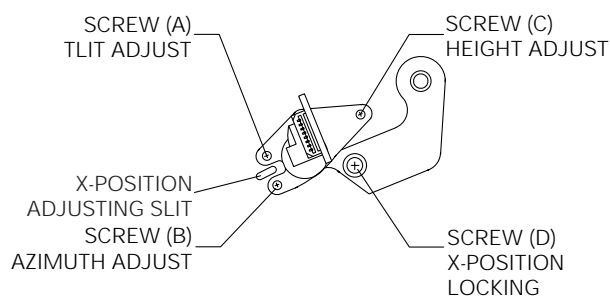

Fig. 4-5-1 Location of ACE Head Adjustment Screw
(Refer to Fig. 4-5-1 and 4-5-2)
3. Adjust screw (B) for maximum audio level. (See Fig. 4-5-1)